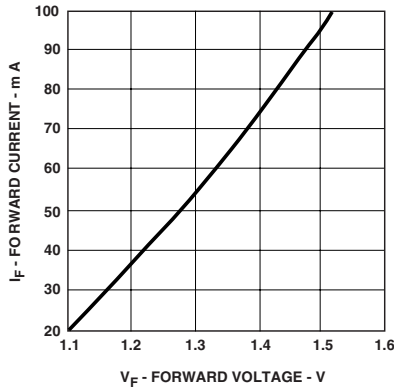

Figure 3. Typical forward voltage and current characteristics
| Forward Voltage | V_F | 1.1 | 1.4 | 1.7 | V | $I_F = 75$ mA | Fig. 3 |
7. Optical rise and fall times are measured from 10% to 90% with 62.5/125 μm fiber. LED response time with recommended test circuit (Figure 3) at 25 MHz, 50% duty cycle.